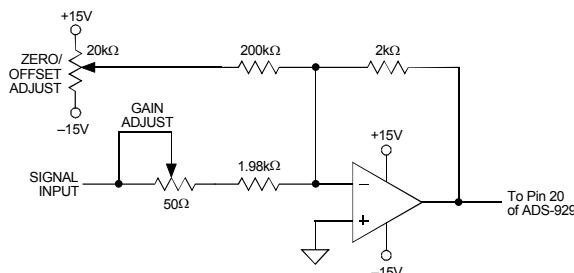

Figure 2. ADS-929 Calibration Circuit
1. Obtaining fully specified performance from the ADS-929 requires careful attention to pc-card layout and power supply decoupling. The device's analog and digital ground systems are connected to each other internally. For optimal performance, tie all ground pins (14, 19 and 23) directly to a large **analog** ground plane beneath the package. Bypass all power supplies and the REFERENCE OUTPUT (pin 21) to ground with 4.7µF tantalum capacitors in parallel with 0.1µF ceramic capacitors. Locate the bypass capacitors as close to the unit as possible. If the user-installed offset and gain adjusting circuit shown in Figure 2 is used, also locate it as close to the ADS-929 as possible.
can be reduced to zero using the input circuit of Figure 2. When using this circuit, or any similar offset and gain-calibration hardware, make adjustments following warmup. To avoid interaction, always adjust offset before gain.
CALIBRATION PROCEDURE (Refer to Figures 2 and 3)
Any offset and/or gain calibration procedures should not be implemented until devices are fully warmed up. To avoid interaction, offset must be adjusted before gain. The ranges of adjustment for the circuit of Figure 2 are guaranteed to compensate for the ADS-929's initial accuracy errors and may not be able to compensate for additional system errors.
All fixed resistors in Figure 2 should be metal-film types, and multiturn potentiometers should have TCR's of 100ppm/°C or less to minimize drift with temperature.